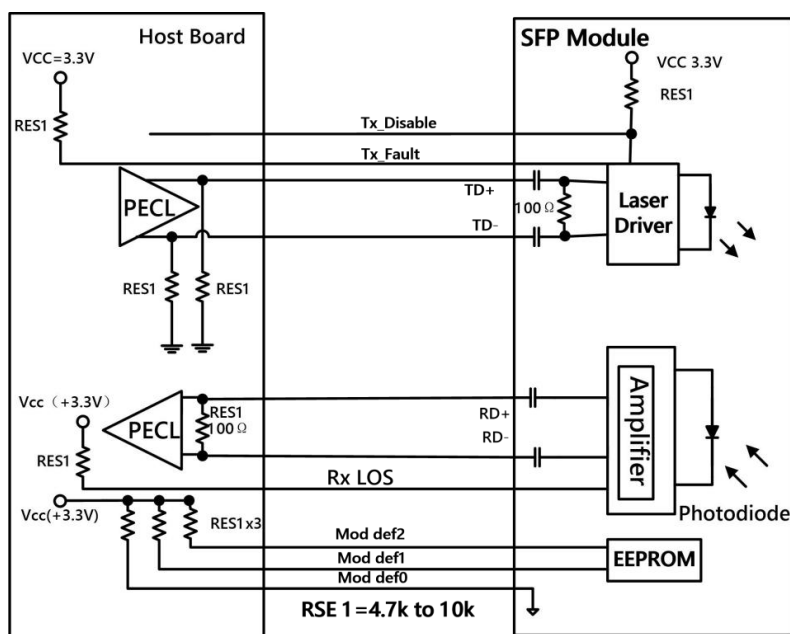

Figure 3 Typical Application Schematics
*Recommended "Typical Application Schematics" are shown in Figure 3.